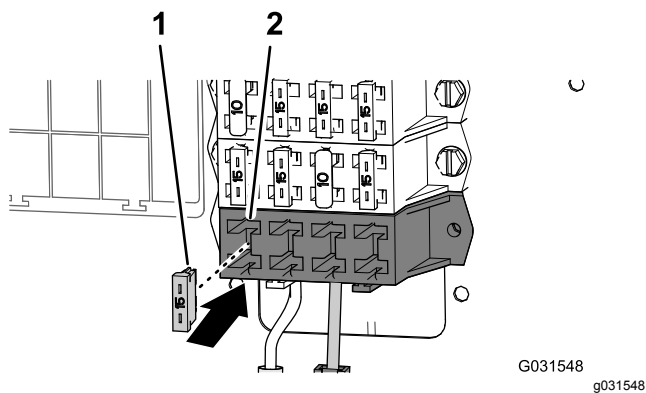

Figure 207
2. Install the 15 A fuse into the socket that you located in the auxiliary-fuse block (Figure 207).